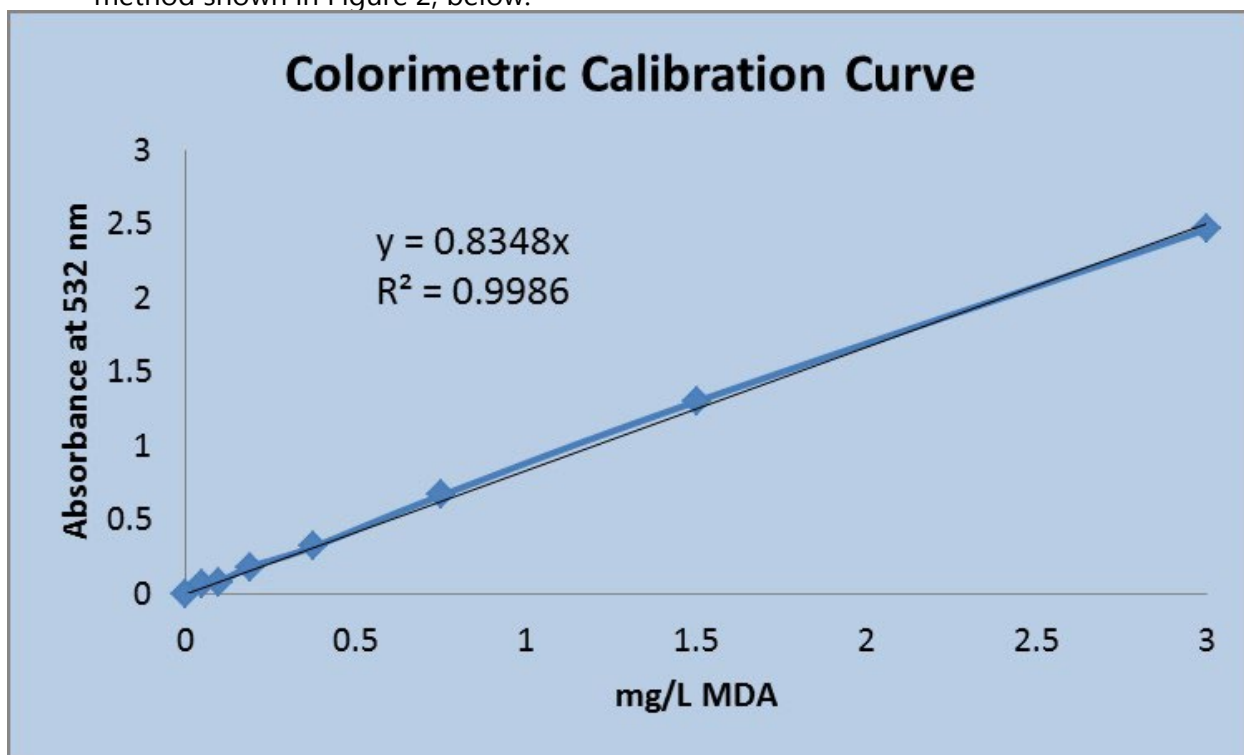

Figure 2: MDA Calibration Curve
2. Plot a standard curve using the absorbance value for each standard versus the MDA concentration for each Standard. The equation of the line can be found using a linear fit method shown in Figure 2, below:
Example: Using the equation from the calibration curve shown in **Figure 2**.